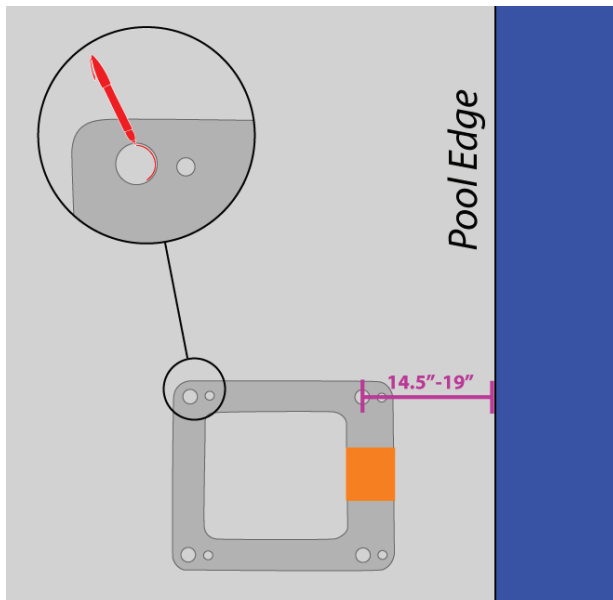

FIGURE 2
1. Mark the 4 hole locations on your deck using the larger holes of the anchor jig plate as a template. For ADA compliance, confirm the center of the jig plate front holes are 14.5 to 19 inches from the pool's edge. *SEE FIGURE 2*